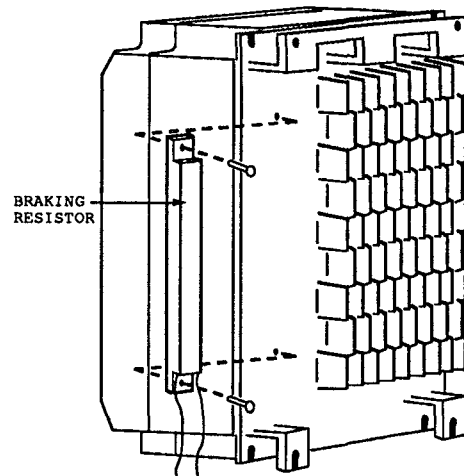

Figure A5-1. Mounting Braking Resistor on Heat Sink
2. Mount the Braking Resistor on the back of the drive's heat sink, as shown in Figure A5-1.